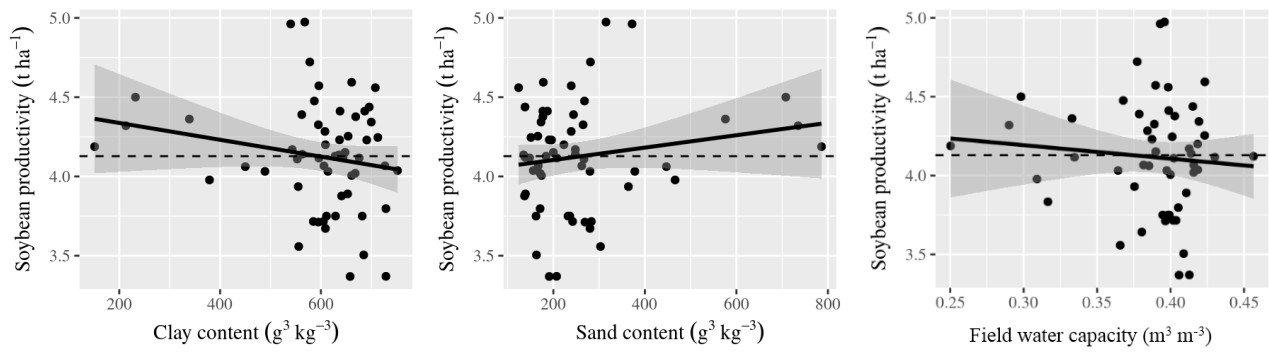

Fig. 6
17 **Fig. 6** (a, b, c) Relationship of the clay content, sand content and field water capacity (FC) with the soybean yield.